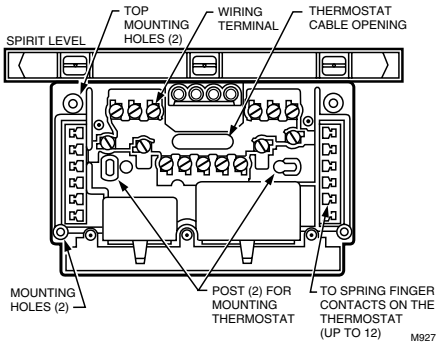

Fig. 2. Leveling the subbase.
- 5 Level the subbase using a spirit level. See Fig. 2. Tighten subbase mounting screws. The subbase mounting slots provide for minor out-of-level adjustments.